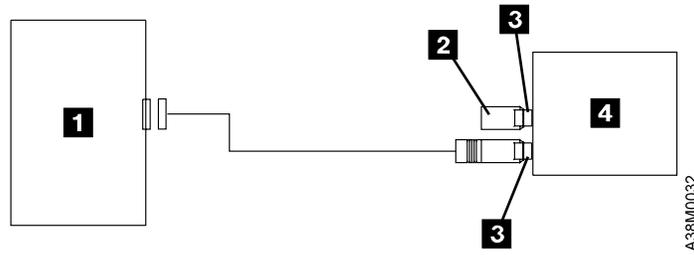

Figure 4. Example of Attaching One SCSI Device to the System Unit. The view is from the side.
- If the 7210 DVD-RAM Drive is the only device on the SCSI bus, connect the cable to the host system (see Figure 4 on page 9). Connect a terminator to the unused SCSI bus cable connector.
- If the 7210 DVD-RAM Drive ( **4** in Figure 4 on page 9) is the only SCSI device attached to the host system **1**, install the terminator **2** on one of the dual connectors **3**.